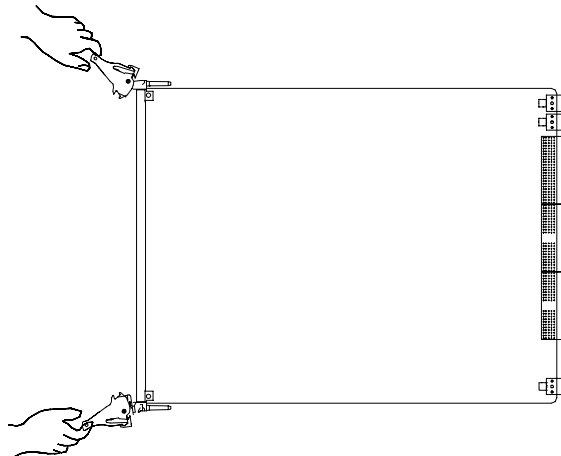

Figure 3-6 Installing a board (1)
- 4) Make sure the ejector levers on the front panel are in the state as shown in Figure 3-6.